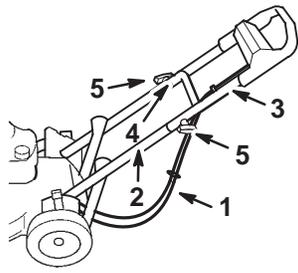

Figure 4
5. Slide the upper handle section ends over the lower handle section so that the sections nest together (Fig. 4)
6. Ensure that the cables are routed below and behind the lower handle section as illustrated in Figure 4.
7. Secure the upper handle section to the lower handle section using two contoured handle bolts and two knobs (Fig. 4).